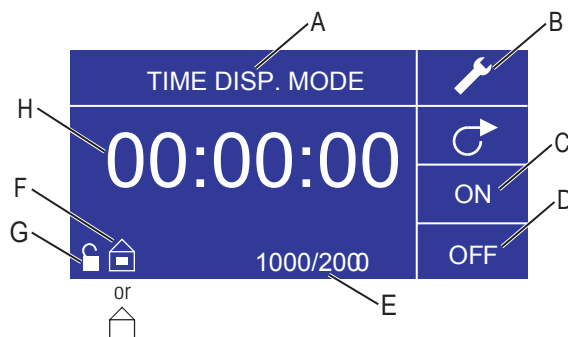

Figure 3-4. Time Dispense Mode Screen
- H. **Time Display:** The center digits show the remaining time of the drive in the ON or OFF Time highlighted on the right of the display (position D or E, Figure 3-4).
6. **Setting ON Time:** To set the ON Time, use the directional pad and ENTER key to select the ON field (see position D, Figure 3-4). Doing so will highlight the timer in the center of the screen (see position I, Figure 3-4). Pressing ENTER again, allows the timer to be set using the UP/DOWN arrows. Switch between digits using the LEFT/RIGHT arrows. Having selected an optimal ON Time, press ENTER again to validate. The drive will now run for the time appearing in the center of the screen.
7. **Setting OFF Time:** To set the OFF Time, use the directional pad and ENTER key to select the OFF field (see position E, Figure 3-4). Doing so will highlight the timer in the center of the screen (see position I, Figure 3-4). Pressing ENTER again, allows the timer to be set using the UP/DOWN arrows. Switch between digits using the LEFT/RIGHT arrows. Having selected an optimal OFF Time, press ENTER again to validate. The drive will stop running for the time appearing in the center of the screen. **NOTE:** If the OFF Time is set to 00:00:00, the drive requires a START/STOP input from the keypad or the remote I/O Connector to start the next dispense.
8. **Selecting Batch Size:** Before running the drive at the selected ON/OFF Times, select a batch size for the operation. To do so, use the directional pad and the ENTER key to select the BATCH icon (see position F, Figure 3-4). In the Batch Count screen, press the ENTER key and then use the UP/DOWN arrows on the directional pad to select a batch size. Switch between digits using the LEFT/RIGHT arrows. Press ENTER one more time to validate the selected batch size. When set to zero (0) the drive will run for an infinite number of cycles and the ` symbol is displayed. Use the directional pad to select EXIT to return to the Time Dispense Operation Screen.
10. **Resetting Batch:** To reset a batch, use the directional pad and the ENTER key to select the BATCH icon (see position F, Figure 3-4). In the Batch Count screen, use directional pad to select RESET and press the ENTER key to reset the batch count, select EXIT to return to the main Time Dispense Mode operation screen.